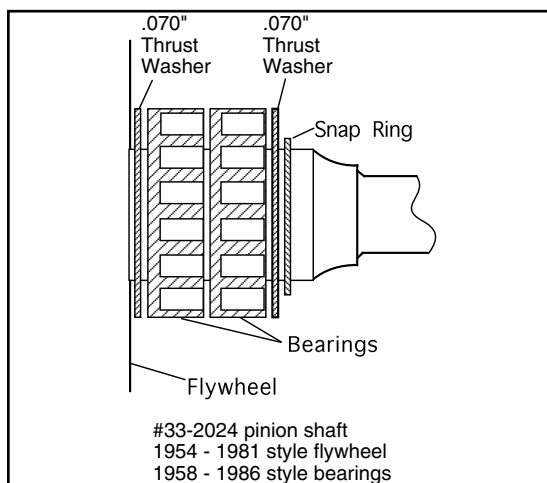

Figure 1
1. 1954 to early 1981 flywheels or S&S® SE or L style flywheels, and S&S pinion shaft 33-2024 - Two .070" thrust washers are normally used. Typical washer and bearing arrangement - .070" washer against flywheel, bearings, .070" washer, and snap ring. **See Figure 1.**